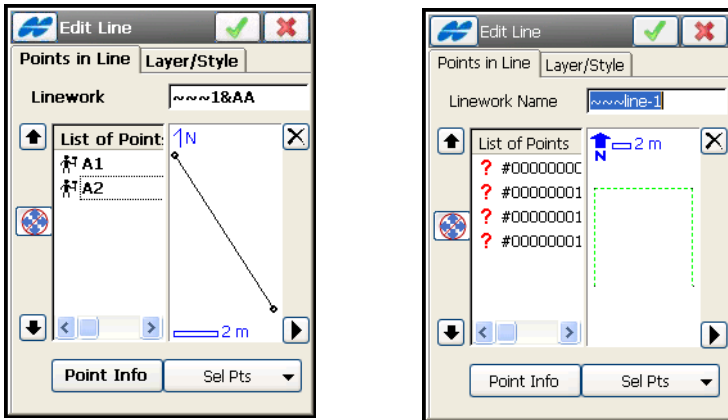

Figure 6-35. Edit Points in Line
- **Edit** – opens the applicable **Edit Line** screen (Figure 6-35 on page 6-29).
On the *Edit Line* screen (Figure 6-35), you can edit the points and the layer of the selected linework.
The *Point in Line* tab displays a list of existing points or positions (with the question marks in the case of imported lineworks) in the selected Linework on the left side of the screen, and the general view of the linework on the right side (Figure 6-35).